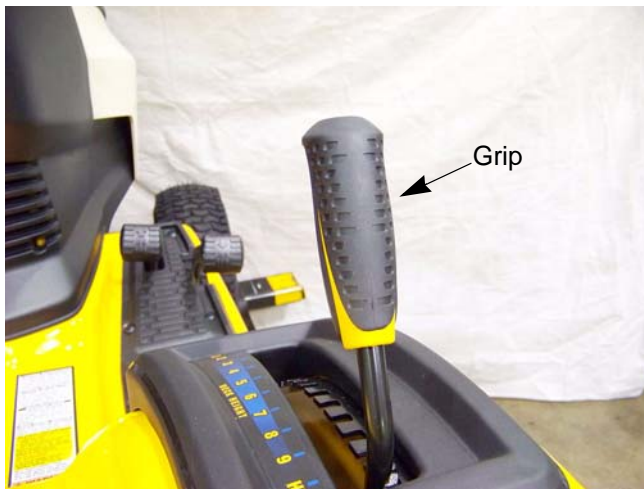

Figure 2.6
5. Remove the deck lift lever grip. See Figure 2.6.